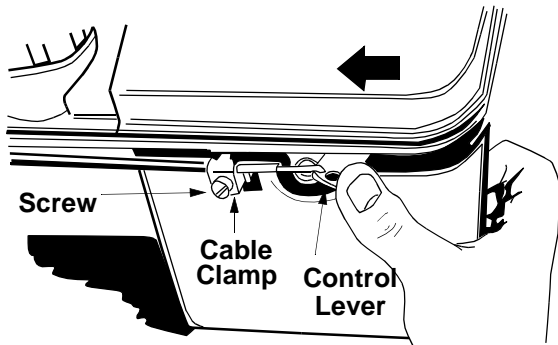

Figure 12
1. Remove the screw shown in Figure 12. Remove the cable clamp from the cable.